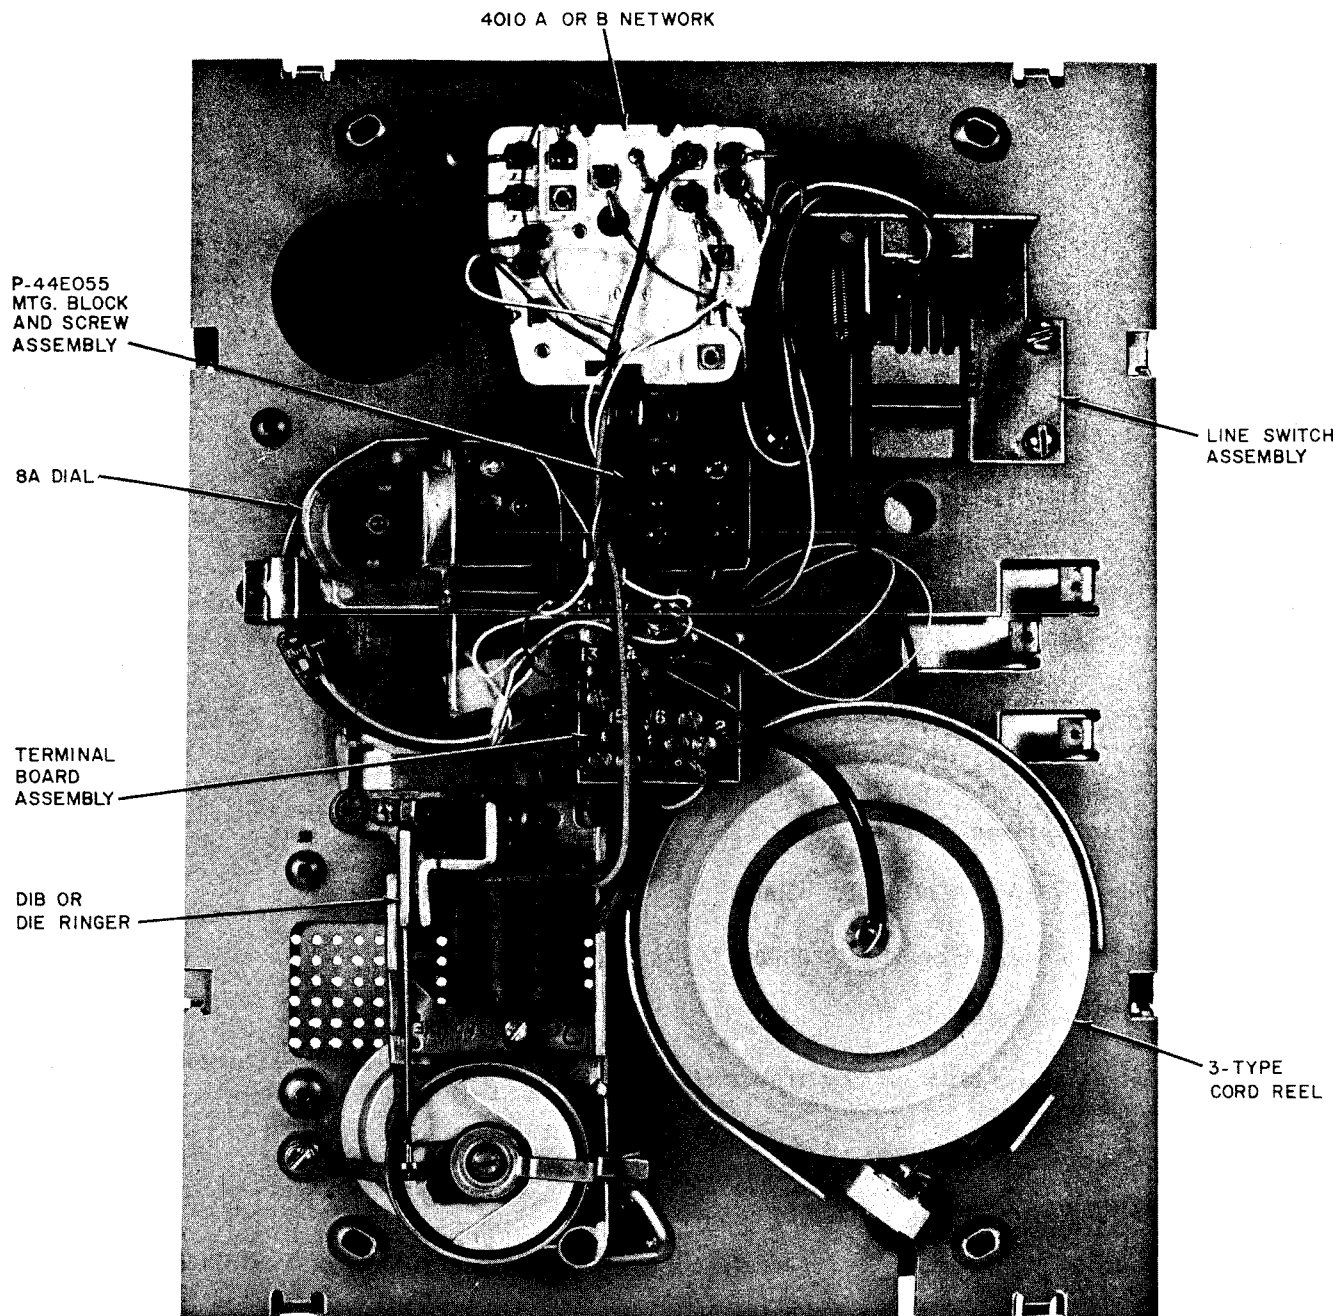

Fig. 4—750-Type Telephone Set, Rear View
2.02 Component parts (Tables A, B and Fig. 4) of these sets are mounted on a steel panel. An aluminum mat retained by a plastic frame covers the panel and gives the installation a finished appearance.